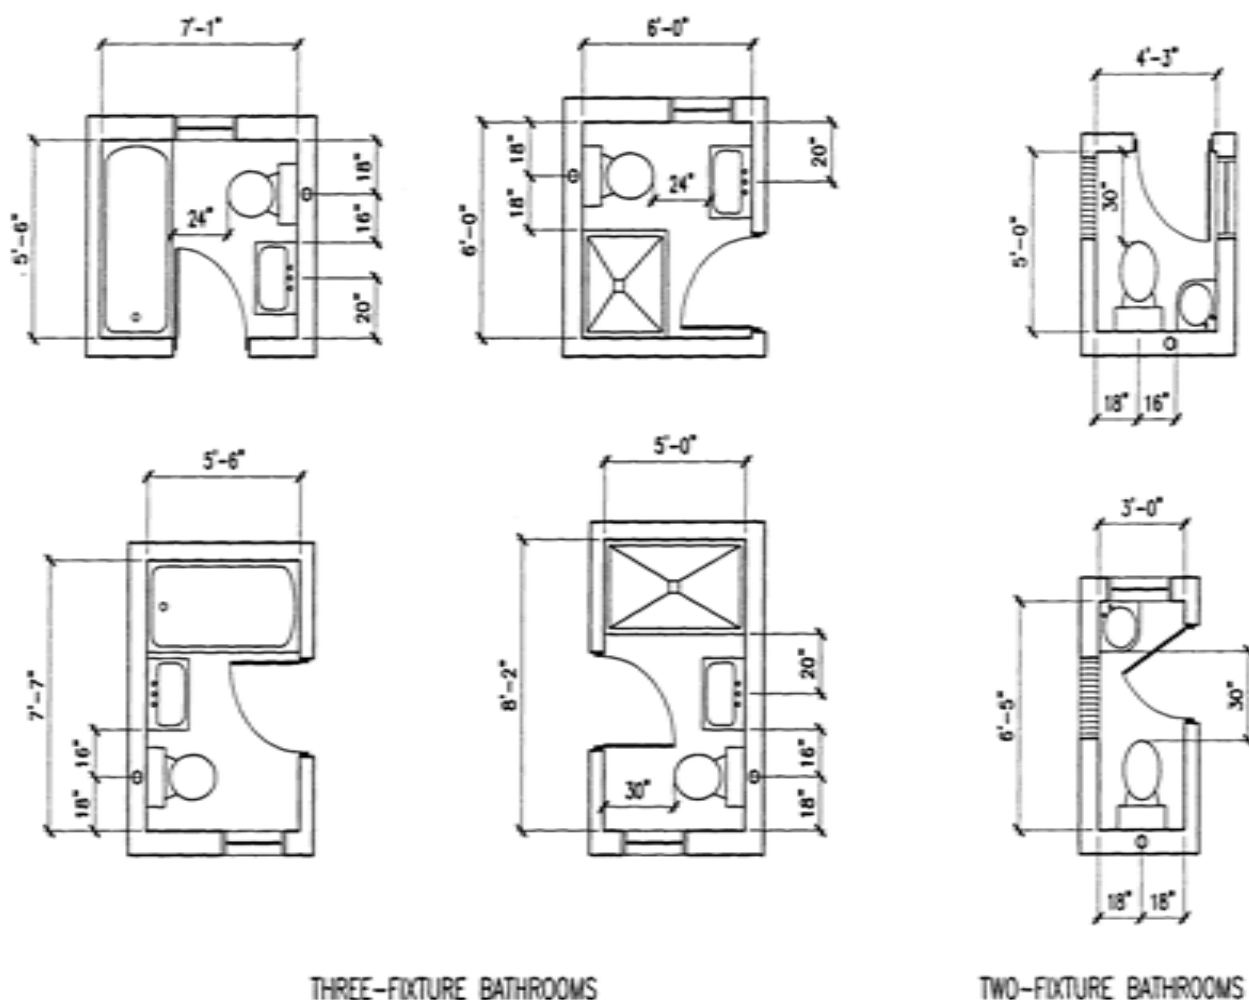

Figure 1.7 Plumbing plan
- Plumbing and internal drainage layouts.(See Figure 1.7)